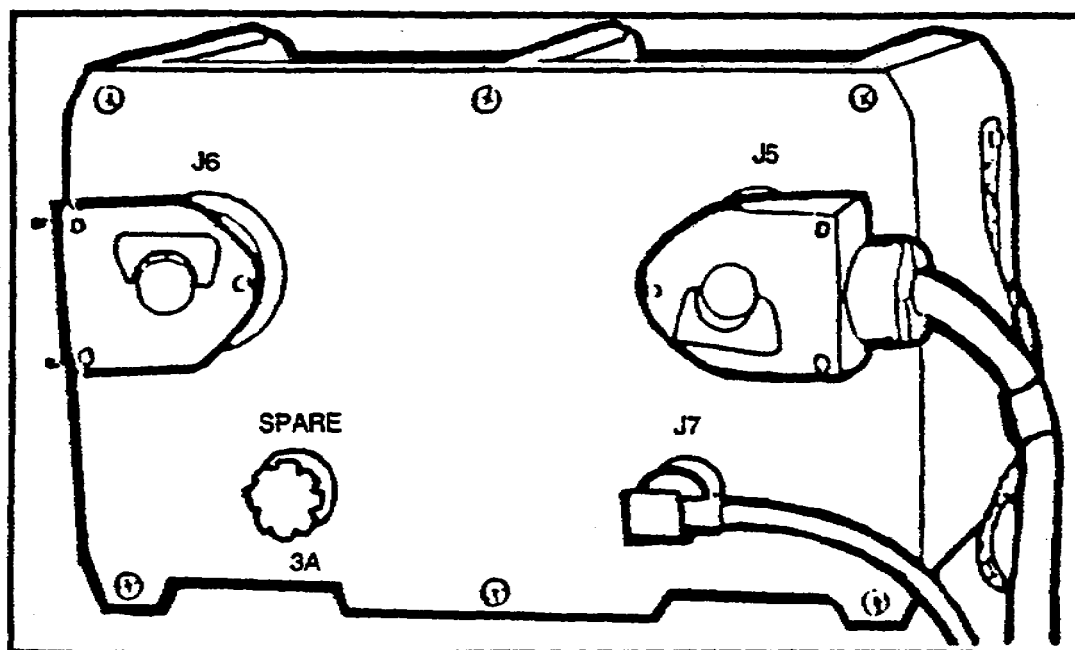

Figure 8. Rear view of AM-6879/URC.
i. The fans in AM-6545 are both sealed units that move air over heat exchangers inside the bottom plate of the unit. All connectors are located on front panels except RT-1209/URC and AM-6879/URC. The RT-1209/URC has a control connector (A1J1) on the side. The AM-6879/URC has the JS, J6, and J7 connectors on the back with a spare fuse holder. J7 is a connector for RF cable to J5 of the AM-6545. J5 of AM-6879 is the connector to control connector J2 of AM-6545, and J6 is the connector to control cable to A1J1 of RT-1209 (see Figure 8).